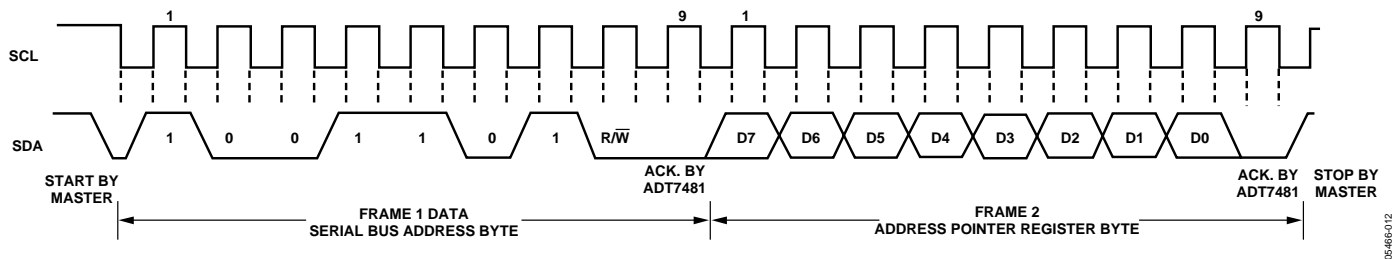

Figure 17. Writing to the Address Pointer Register Only
- If the address pointer register value of the ADT7481 is unknown or not the desired value, it is necessary to set it to the correct value before data can be read from the desired data register. This is done by performing a write to the ADT7481 as before, but only the data byte containing the register read address is sent, as data is not to be written to the register. This is shown in Figure 17.
- If the address pointer register is already at the desired address, data can be read from the corresponding data register without first writing to the address pointer register, and the bus transaction shown in Figure 17 can be omitted.